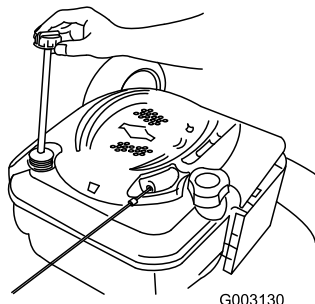

Figure 35
2. Retirez la jauge (Figure 35).